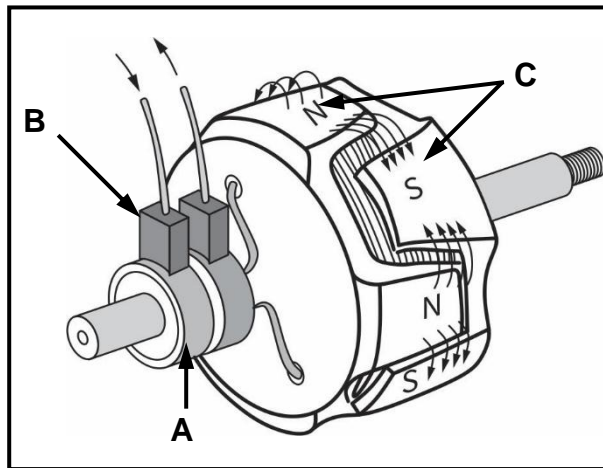

FIGURE 10.7
10.7 FIGURE 10.7 below shows the rotor of an alternator. Answer the questions that follow.